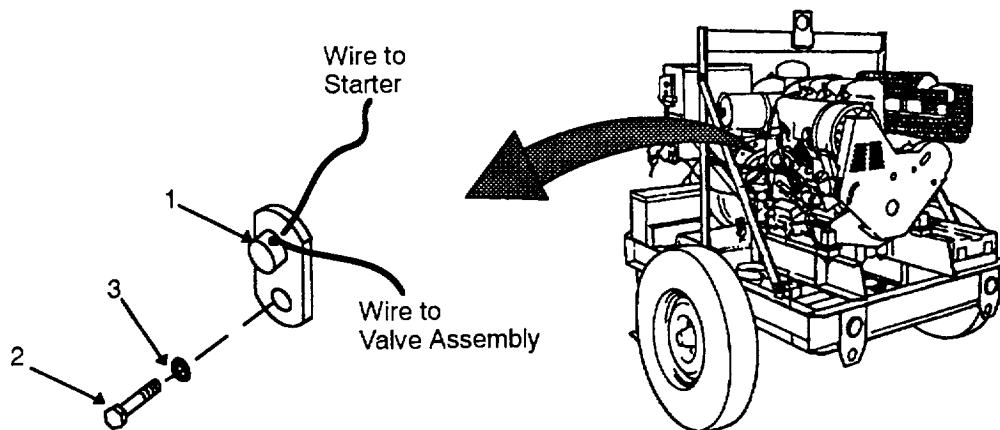

Figure 4-7.2. Starting Aid Temperature Switch (Model 350 PAFN).
4.10.4.2.1. Removal. (Refer to Figure 4-7.2)
- a. Tag and cut wires from temperature switch (1) to valve assembly and starter solenoid (figure 4-7.2, 1).
- b. Remove screw (2) and flat washer (3) and temperature switch from side of engine.
4.10.4.2.2. Installation. (Refer to Figure 4-7.2)
- a. Position temperature switch (1) on side of engine and secure with screw (2) and flat washer(3).